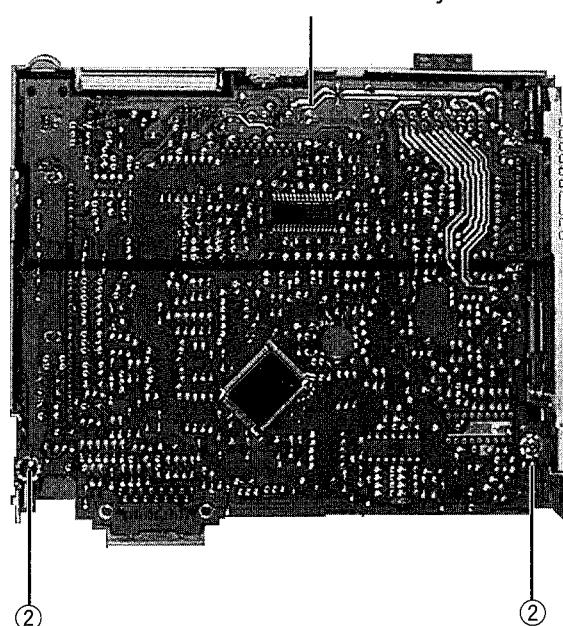

Fig. 6
**■ Removing the Main Board Assembly ( See Fig. 6 ,7)**
4. Remove the two screws ② retaining the main board assembly.
5. Remove the three screws ③ retaining the rear panel .